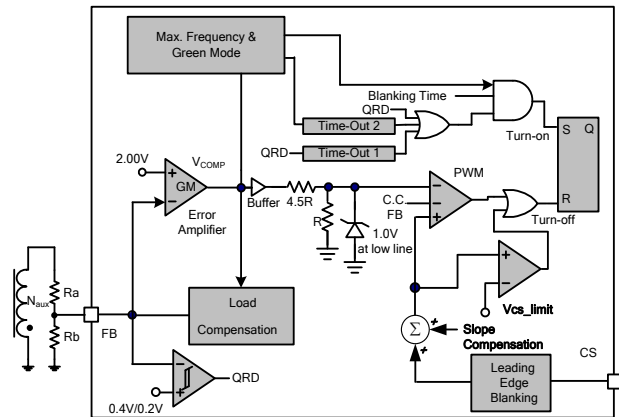

Fig. 18
The LD9175 employs quasi-resonant (QR) switching scheme to switch in valley-mode either in CV or CC operation. This will greatly reduce the switching loss and the ratio  $dv/dt$  in the entire operating range for the power supply. Fig. 18 shows the typical QR detection block. The QR detection will detect auxiliary winding signal to drive MOS as FB pin voltage drops to 0.2V. The QR comparator will not activate if FB pin voltage remains above 0.4V.